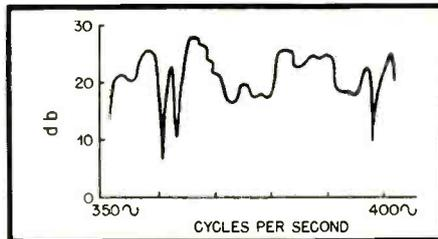

Fig. 1. Typical curve showing sound pressure variations over the audio spectrum between 350 and 400 cps.
OVER THE PAST FEW YEARS the author has been working to develop an input amplifier and tone control circuit with fewer than the average number of faults. This article is a story of the evolution of such a circuit and Fig. 1 is the family tree of the circuit.
The circuit shown at (A) in Fig. 1 is a widely used circuit which provides for boost and cut for both bass and treble. There is no interaction between the two tone controls but the circuit requires that three grids be operated at low signal levels with the attendant danger of hum and at high levels the three triodes without feedback are likely to produce more distortion than the output amplifier that follows them.
To alleviate these difficulties the circuit of (C) in Fig. 1 was developed. The inverse feedback reduced the distortion to a reasonable level and the resistor between the sliders of the bass and treble controls minimized the interaction of these controls.
where a tube is required to operate at 20 db above the desired output level in order to allow for a 20 db boost at high or low frequencies. This excess level adds considerable unnecessary distortion so the next step was to eliminate the necessity for operation at such a high level. The circuit shown at (E) in Fig. 1 was designed to produce all compensation but bass cut by variation of the feedback circuit. Because of the practical difficulties of obtaining bass cut by variation of
Fig. 1. Six steps in the development of the control unit described by the author. Each of the circuits from (A) to (E) had some faults; all are presumed to be eliminated in (F).
Since the end of the war, much work has been done, mostly in Europe, to arrive at some criterion for this condition of sound homogeneity in a room which would recognize the variations in sound-pressure peaks and valleys that prevail throughout a bounded space when a loudspeaker is energized by a steady sinusoidal signal. Such peaks and dips can for a single frequency be plotted in the form of a topographic map showing, usually in a plane, the distribution of the sound pressure. Similarly, when the signal frequency is varied slowly and continuously, and the microphone position remains fixed, the sound pressure variations appear in the form of an apparently haphazard series of peaks and dips. Figure 1 is an example. These, it was felt, had some bearing on the hearing conditions of a room because apparently similar rooms, alike in reverberation time and volume, showed sometimes totally unlike steady-state transmission characteristics, and were also known sometimes to have unlike hearing conditions. This phenomenon was first discussed by E. C. Wentz.1 While he drew no particularly pertinent conclusions from his investigations, short of showing that these variations became less with increasing absorption in the room, he led to the establishment of several techniques for